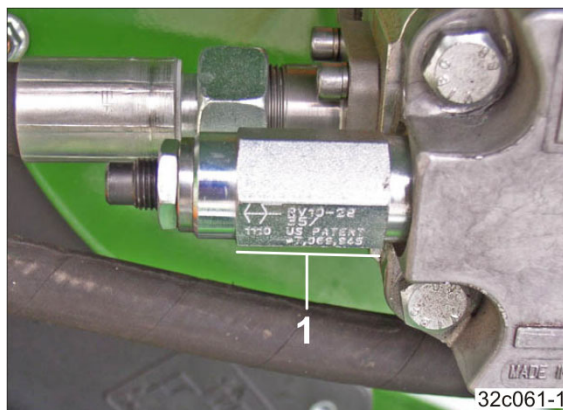

Fig. 163
- 2.2 Pressure relief valve with hexagonal outer contour (Fig. 163/1)